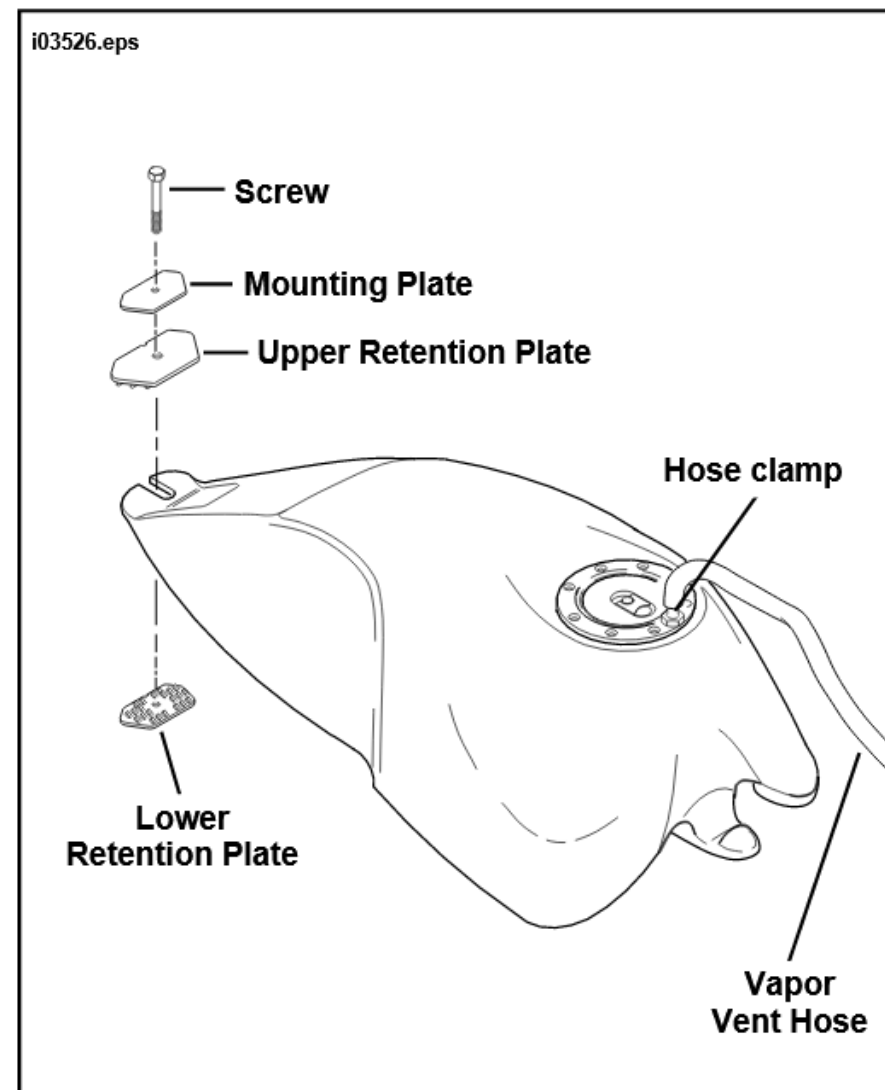

Figure 2. M2 Fuel Tank Mounting Components
4. See Figure 2. Remove the fuel tank as follows:
33. See Figures 2 and 13. Carefully raise the back of the fuel tank and place the lower retention plate in position on the frame. **NOTE: It is important that the prongs on the retention plate face toward the rear of the vehicle and be in contact with the fuel tank. Position so the V-shaped slot side of the mounting plate faces toward the rear as shown.**
35. See Figures 2 and 15. Place the remaining retention plate and mounting plate in position on top of the fuel tank rear mounting projections. **NOTE: It is important that the prongs on the retention plate face toward the rear of the vehicle and be in contact with the fuel tank. Position so the V-shaped slot side of the mounting plate faces toward the rear as shown.**